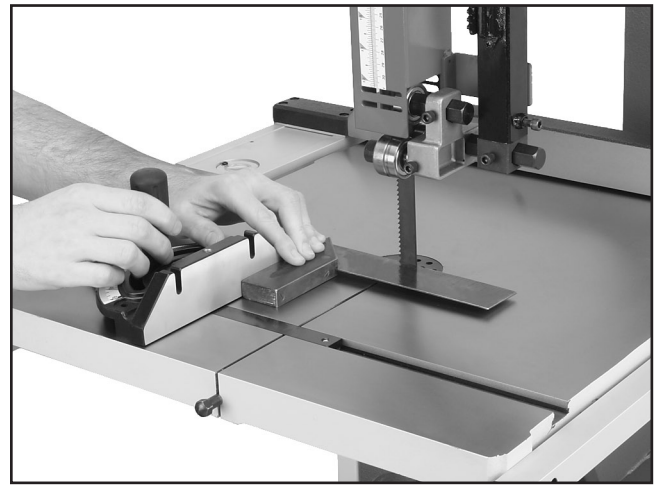

Figure 36. Squaring miter gauge to blade.
1. Use a machinist's square with one edge against the face of the miter gauge and the other against the blade face as shown in **Figure 36**.